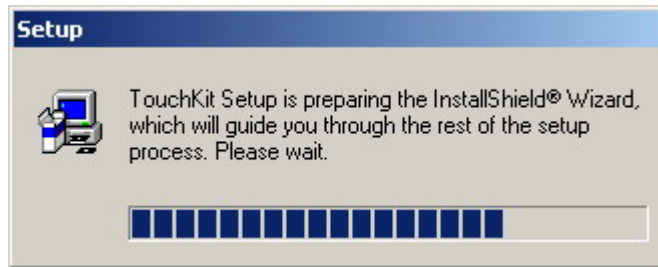

Figure 7-2: Install Shield Wizard Preparation
Step 4: Once the OS system is selected, the touch kit setup will prepare the install shield wizard (**Figure 7-2**).